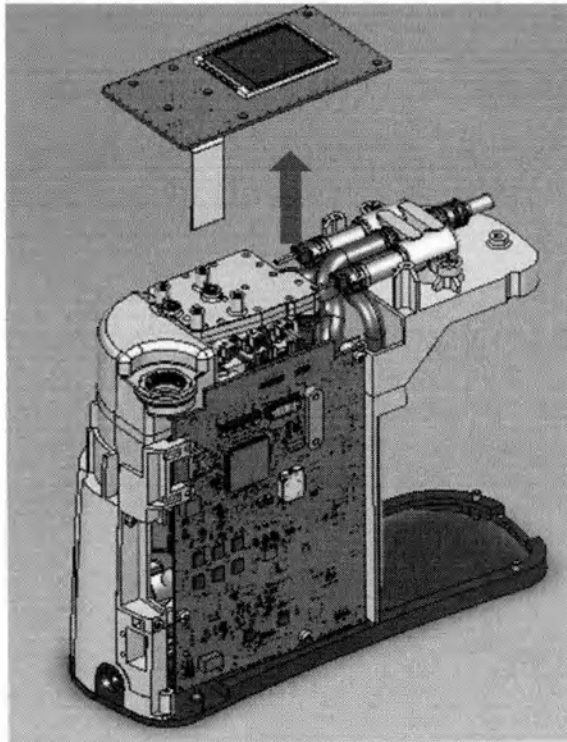

Figure 21
3. Now that that the Flex Cable of the LCD Display, the Flex Cable of the Sensor Block and the Product Manifold's connector have been disconnected, remove the Sensorboard from the top as shown in Figure 21.